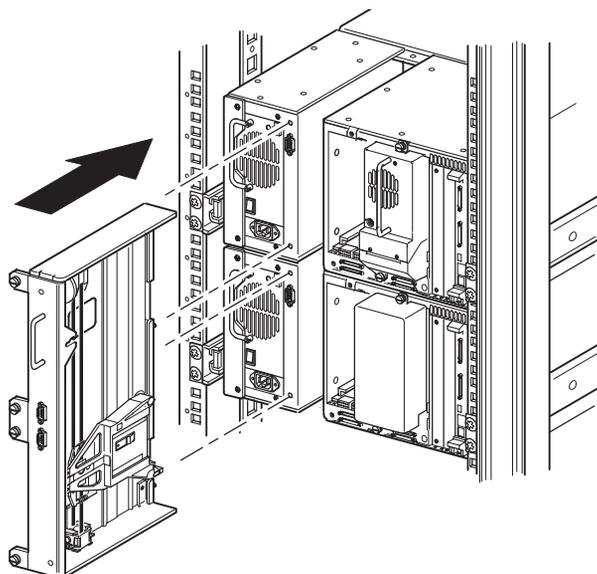

Figure 9: Installing the PTM base unit
4. Install the PTM base unit (see Figure 9).
1. Use the handle while supporting the PTM base unit from the bottom (see Figure 9 on page 28).